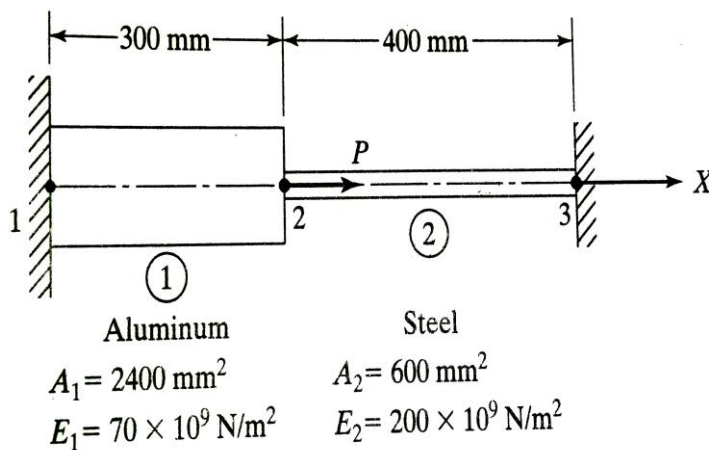

Fig. 1.
- (c) Consider the bar shown in fig. an axial load $P = 200 \times 10^3 \text{N}$ is applied as shown in **Fig. 1**. Using the penalty approach for handling boundary conditions do the following: **07**